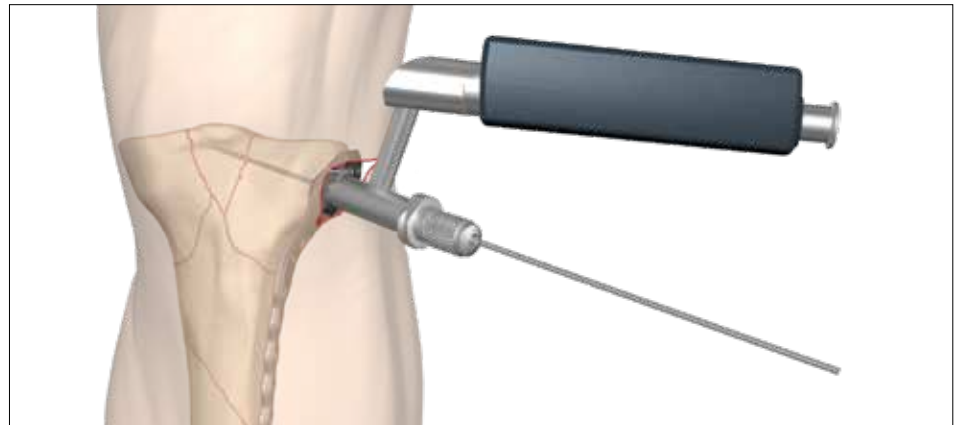

Fig. 6
A K-wire Ø2.0mm x 285mm (ref 703583) can now be inserted through the cannulation of the adaptor nut and the plate adaptor to help secure the plate to the bone (fig. 6). Precise alignment of the K-wire can be achieved using a K-wire sleeve (ref 703575) through the cannulation of the plate adaptor. Also, other independently placed K-wires can help to support depressed articular surface fragments. Insertion of a K-wire should be checked by fluoroscopy to avoid penetration into the articulating surface.